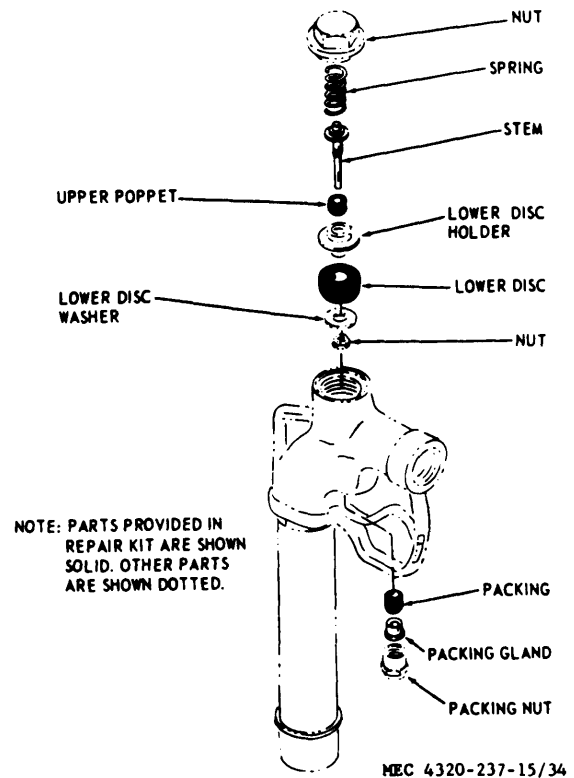

Figure 34. Nozzle, disassembly and reassembly.
b. Disassembly. Refer to figure 34 and disassemble the nozzle.
- (1) Discard the removed parts for which there are replacement in the nozzle repair kit.
- (2) Clean all remaining parts with an approved cleaning solvent; dry thoroughly.
- (3) Inspect the nozzle parts for cracks, distortion, worn or damaged threads, and other damage; replace damaged parts. Make sure the ground cable and pinch-type ground connector are attached and in good condition.
d. Reassembly. Refer to figure 34 and reassemble the nozzle.